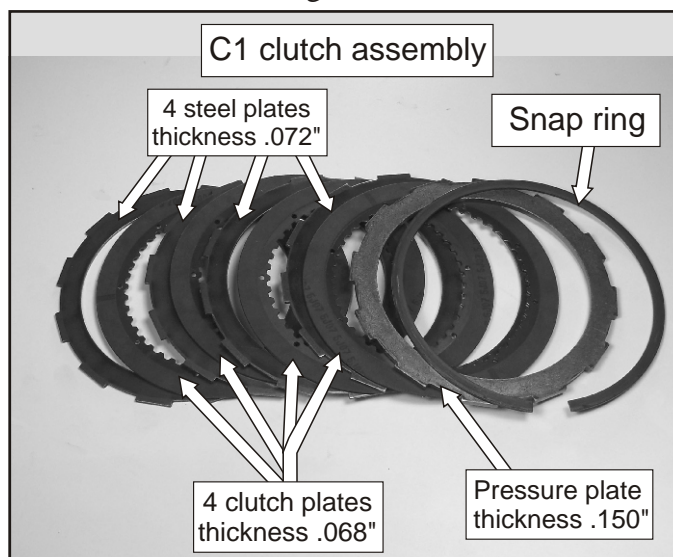
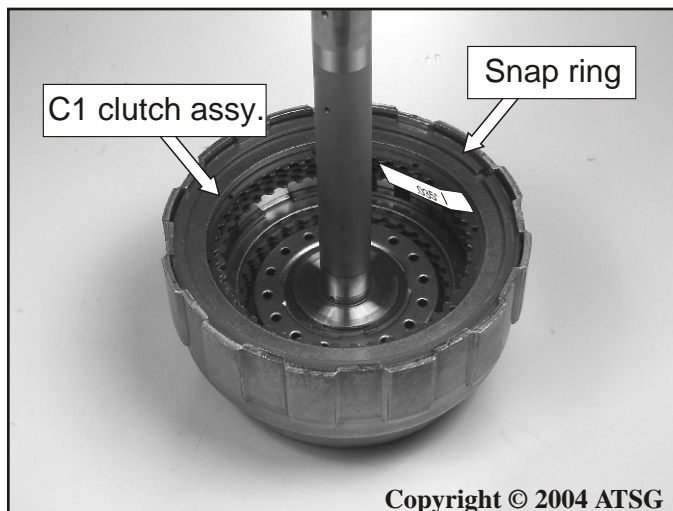

Figure 209
Figure 210
- 152. Install the C1 clutch assembly into the drum as shown in Figure 210. Use Figure 209 as an assembly guide. Install a .072" steel plate into drum first, then install the remaining C1 clutch plates and steels ending with the pressure plate and snap ring. Clutch clearance should be between .035" to .045."